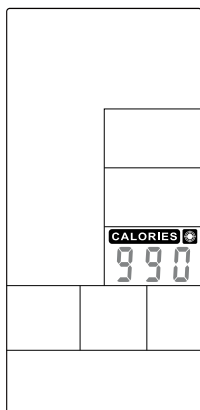

Figure 43
- ⑧ Press any PROGRAM key then perform the program accordingly.
- ① In Standby mode, press Target Calories key and **CALORIES** will light up, along with a long sound for 1s.
- ② CALORIES value is flashing, press UP and DOWN to adjust (Figure 43). Press ENTER to confirm meanwhile buzzer beeps 1s and CALORIES last lighting up